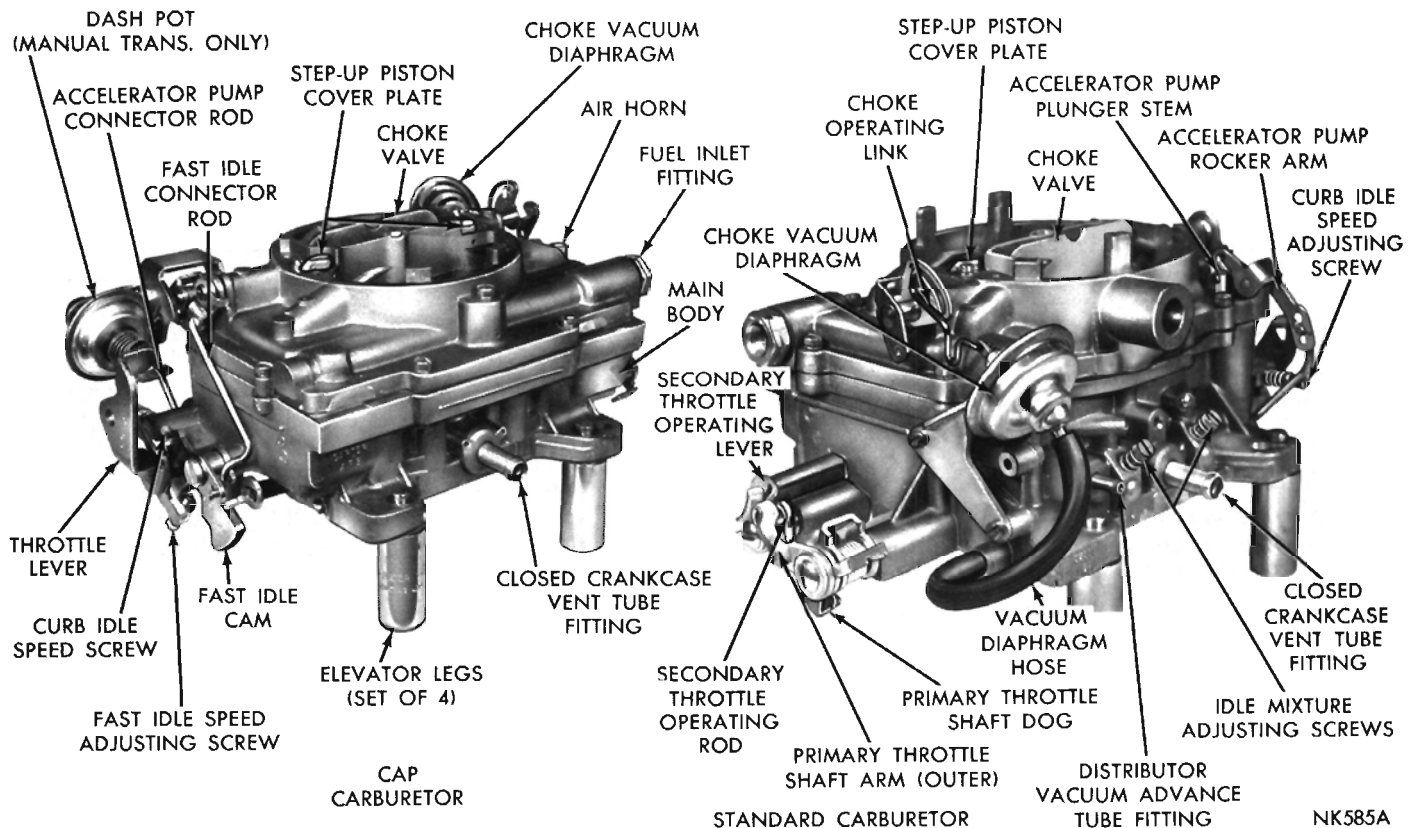
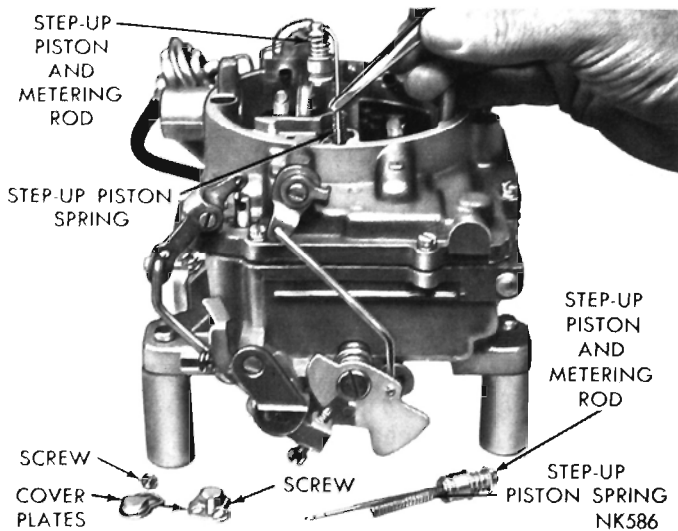

Fig. 1—Carburetor Assembly (Carter AFB)
Fig. 2—Removing or Installing Step-Up Pistons and Rods
To disassemble the carburetor for cleaning or overhaul, refer to (Fig. 1), then proceed as follows:
(1) Place carburetor assembly on repair stand Tool C-3400 or T-109-287S elevating legs. These tools are used to protect throttle valves from damage and to provide a suitable base for working.
(2) Remove hairpin clip that attaches fast idle connector rod to choke lever. Disengage rod from lever, then swing rod at an arc until it can be disengaged from fast idle cam.
(3) Remove clevis pin that holds throttle connector rod in center hole of accelerator pump arm. Remove hairpin clip that attaches lower end of rod in primary throttle shaft lever. Disengage rod from arm and lever, then remove from carburetor.
(4) Remove screws attaching step-up piston and rod cover plates. Hold cover down with a finger to prevent piston and rods from flying out. Lift off plates and slide step-up pistons and rods out of air horn, as shown in (Fig. 2). Remove step-up piston springs.
(5) Remove vacuum hose between carburetor throttle body and vacuum diaphragm.
(6) Remove clip from choke operating link and disengage link from diaphragm plunger (stem) and choke lever. Refer to (Fig. 1).
(7) Remove vacuum diaphragm and bracket assembly and place to one side to be cleaned as a special item. A liquid cleaner may damage diaphragm material.
(8) Remove ten screws that attach air horn to main body. (1 screw in hole in air horn.) Lift air horn straight up and away from main body. When removing air horn, use care so as not to bend or damage floats. Remove accelerator pump, plunger lower spring from pump cylinder. Remove dash pot (if so